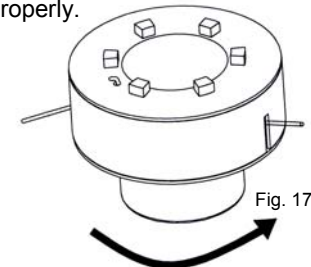

Fig. 17
7. When you have completely pulled the cutting line through the spool, hold the spool in your hand so that your thumb and fingers can be used as guides when winding the cutting line. Rotate the hub counter-clockwise until the line is wound around the spool. (Fig. 17) Make sure that you leave about 6-inches of the line on each side for the spool to function properly.